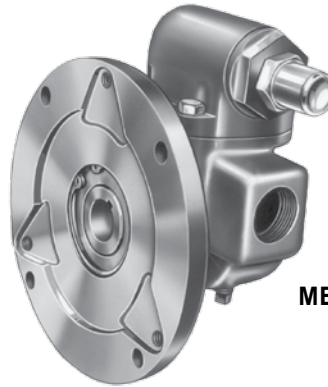

FIGURE 4
6. **REMOVE THE MECHANICAL SEAL OR LIP SEALS.** (See figure 4) Remove the snap ring in the casing of the two smaller pumps (G and GG sizes) and the complete seal can be removed out of the large flanged end of the casing.